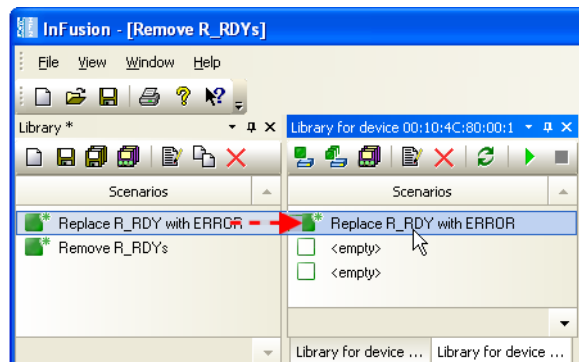

Figure 5.50 Downloading Scenarios
- Step 1** Open the general library (Main library or a File library). Scenarios in the library are listed in the library window (left side Figure 5.50).
- Step 4** Copy the scenario from general library to device library by dragging it with the mouse (Figure 5.50).